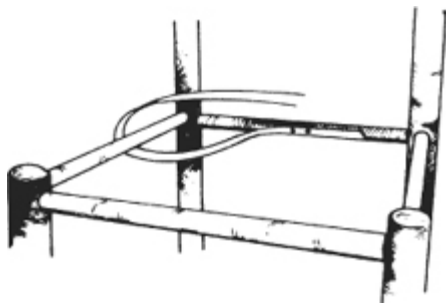

fig. 23
3. Tack one end of the length of splint to the inside edge of the back rail. Allow about four inches to overlap the rail. See Figure 23.
4. Bring the free end under and over the left rail. Figure 23.